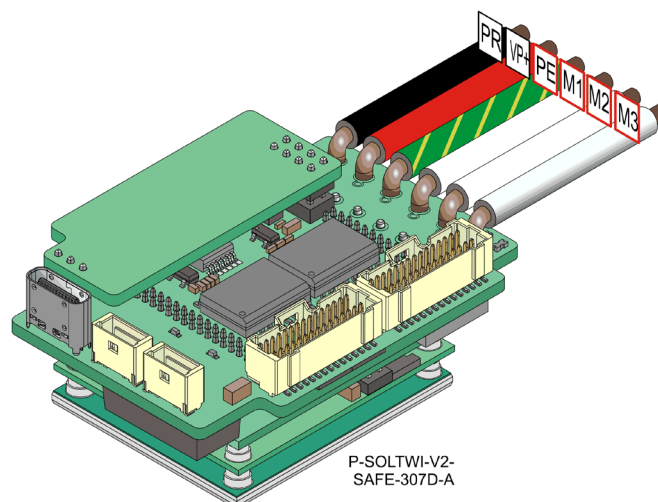

Figure 11: Connecting the Motor Power Wires
4. Connect the motor power wires as shown in Figure 11. The green/yellow wire is the Grounding wire.